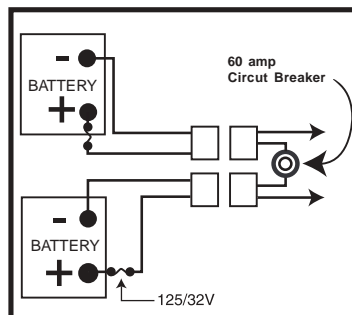

Figure 13A. Battery Cable Orientation
7. Connect the red battery cable to the positive (+) battery terminal. **See figure 13A.**